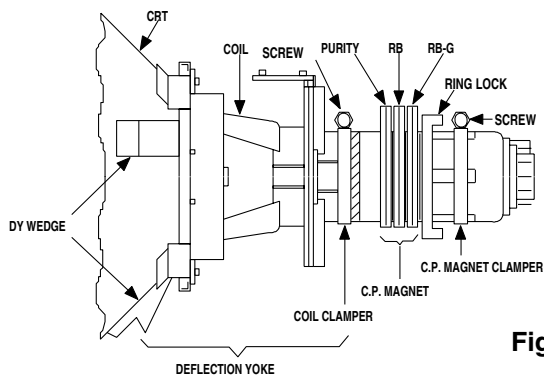

Fig. 6
5. Loosen the screw on the Deflection Yoke Clamper and pull the Deflection Yoke back away from the screen. (See Fig. 6.)